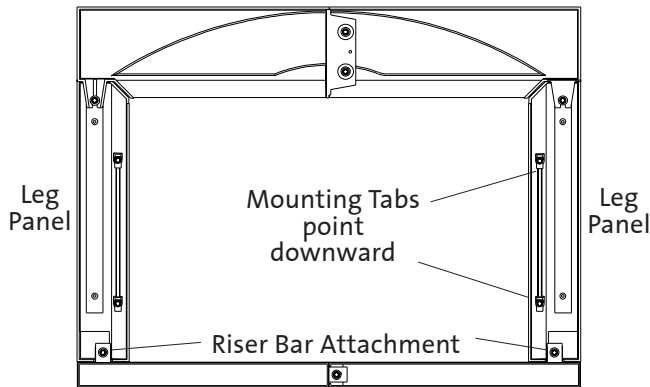

Figure 25. Surround mounting tab locations.
6. Four mounting tabs are attached to the back of the surround panels at the factory. Be sure all four tabs are in place and secure. See fig. 25.
7. Stand the assembled surround up and gently lift to the unit. Align the mounting holes on the sides of the insert with the mounting tabs on the surround. See fig. 25.
9. Secure the two sections of the riser bar together with a washer and bolt and slide the assembled riser bar under the bottom grill assembly on the unit. Attach the Riser Bar to each leg panel with a bolt and washer as shown in fig. 25.